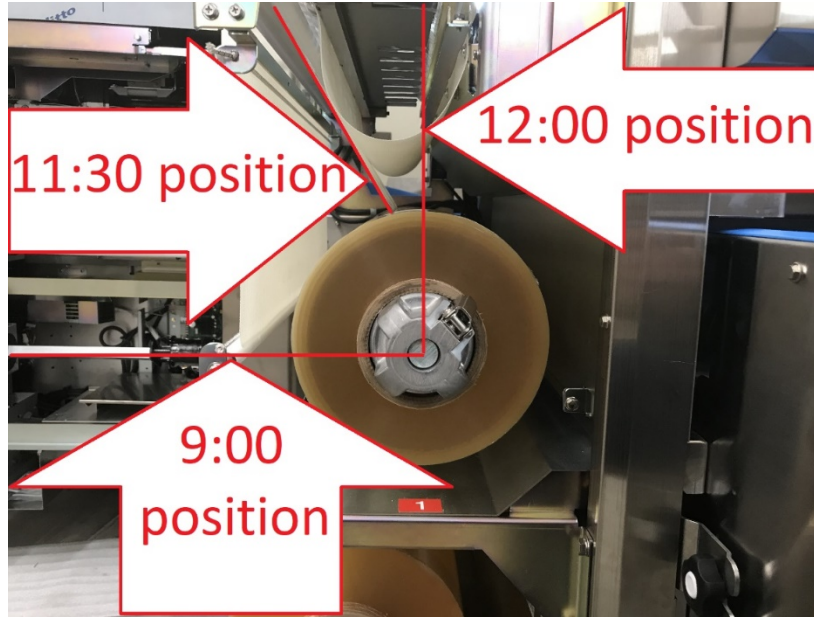

Figure 1.
6. Repeat step 4 but note that the third feeding of film occurred at the normal speed. Observe the stop position at this time and compare to the *figure 1*: